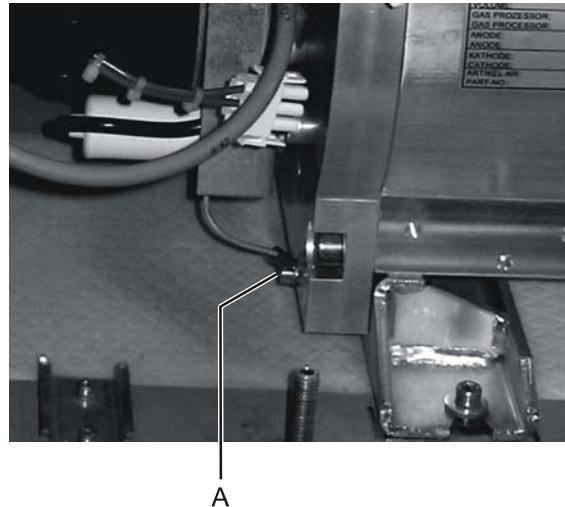

Figure 23: Laser tube grounding cable
24. Use the 3 mm allen key to disconnect the laser tube grounding cable (see Figure 23, A).
66. Use the 3 mm allen key to connect the laser tube grounding cable (see Figure 23 on page 47).